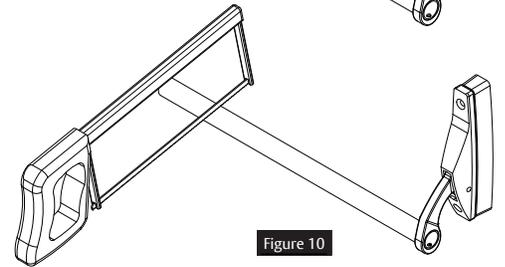

Figure 10
1. Slide bar through active and inactive case with screw hole towards active case. Screw plug and bar onto active case with 10-24 x 3/4" cap screw. (Figure 10)